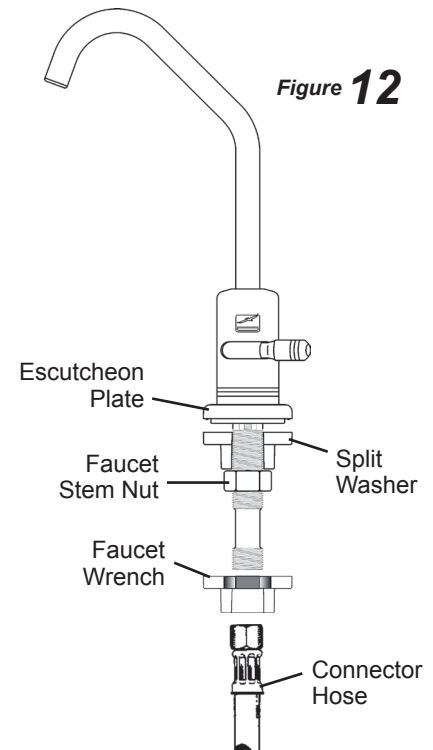

Figure 12
5. Slide the open end of the supplied wrench onto the faucet stem beneath sink. Slide the wrench up the stem; fitting the wrench on to the stem nut, (Fig. 12) position and orient the faucet, then turn the wrench to secure faucet.